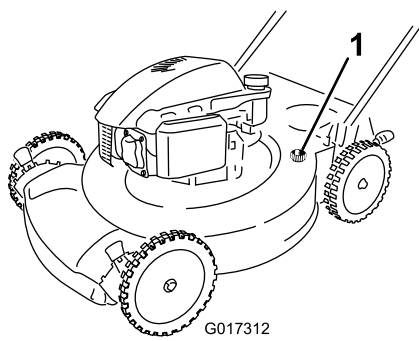

Figure 30
4. Attach a garden hose that is connected to a water supply to the washout port on the machine (Figure 30).